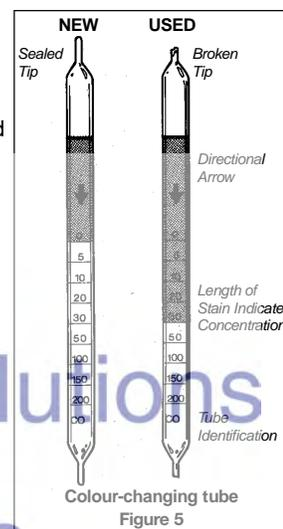

Figure 5
- 1) The first is the colour-changing tube type. A sample of air is drawn through a glass tube filled with crystals that change colour if certain gases or vapours are present (Figure 5). These devices are the simplest, cheapest, and most versatile way of checking for toxic gases and vapours. However, they are very specific and will react only to certain gases or vapours.